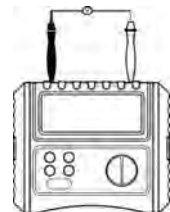

Figure 5
X. Measuring Voltage/Frequency (See Figure 5)